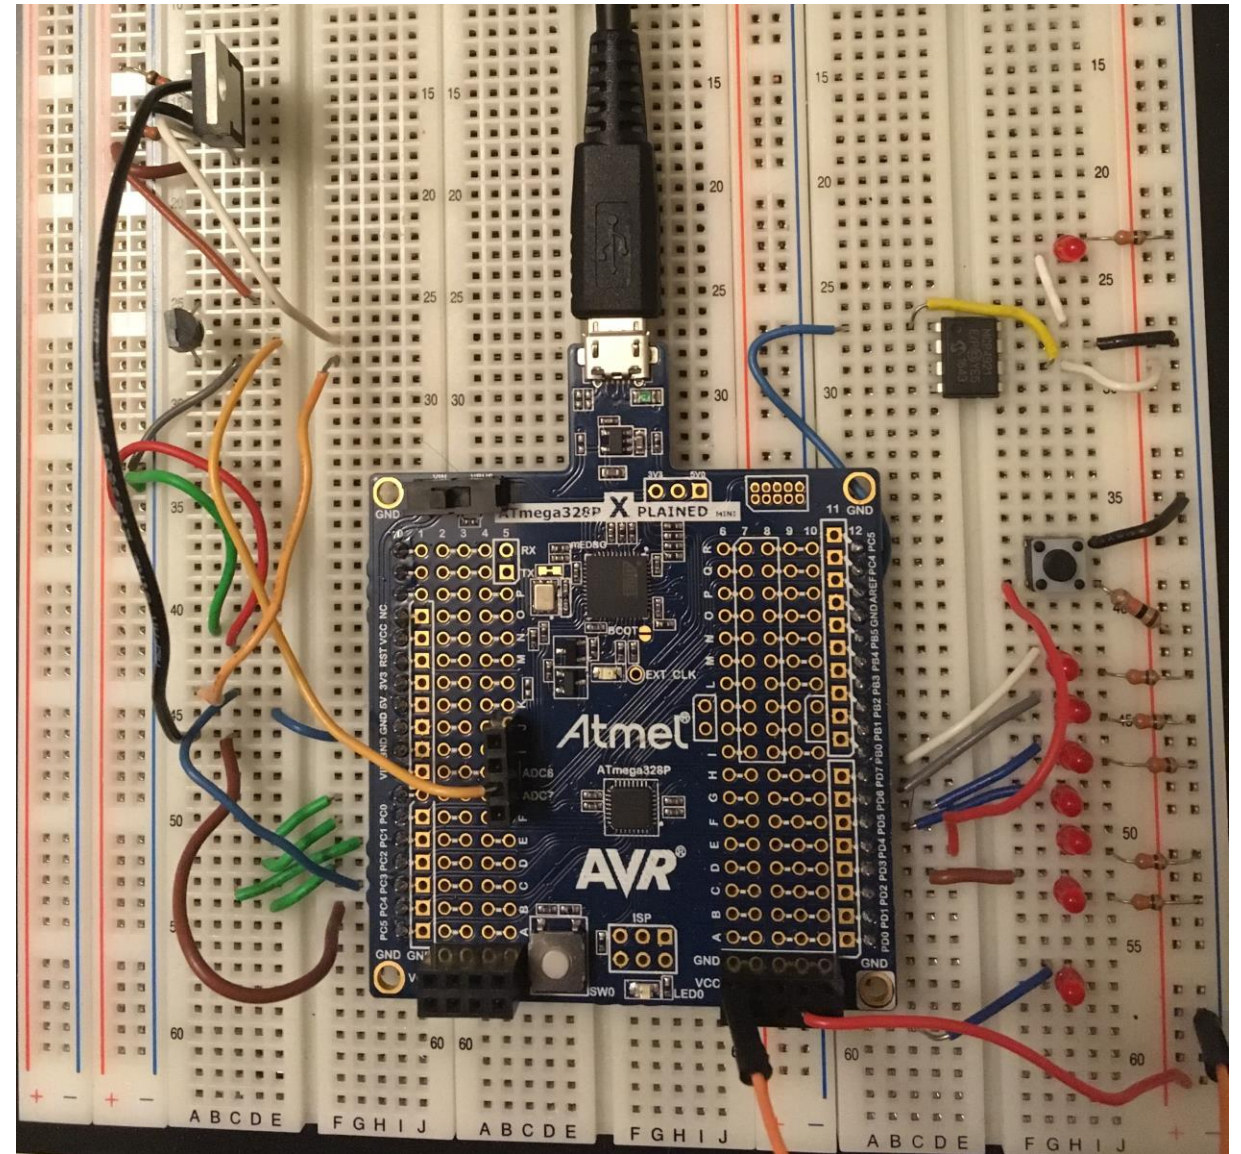

Fig1. Connections Temperature sensing using I2C and ADC
- Connect the board as in Fig.1.